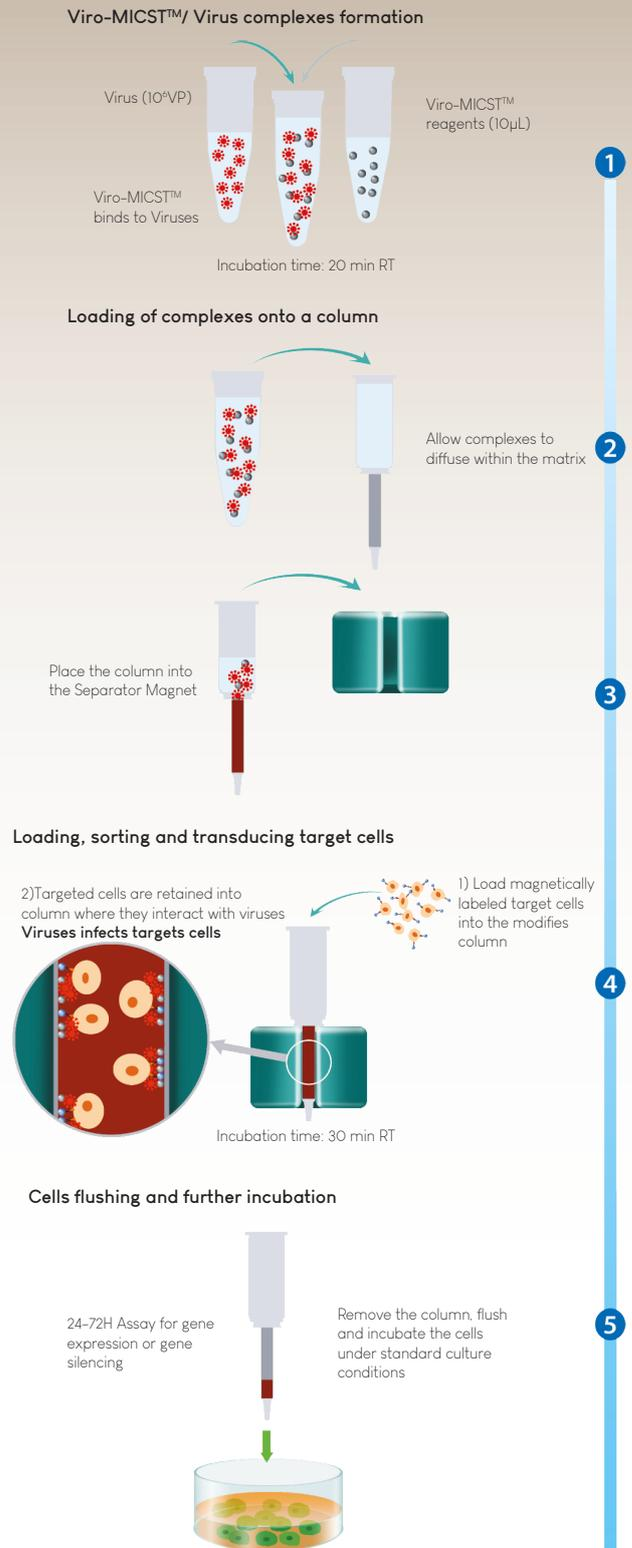

Fig.1 Overview of the Viro-MICST™ procedure
- 2- Viro-MICST™ procedure. This step allows reaching high purity and simultaneously infecting the target cell population. (cf. fig.1)
Figure 1. Intracellular trafficking of polyplexes. Excess of polycations at the surface of the polyplex allows attachment to the cell surface (1) and uptake or internalization by the target cell, generally through endocytosis (2). Once into endosome vesicle (3), higher degree of protonation of the proton-sponge polymer causes influx of ions and the pH responsive linker is cleaved, releasing the first polymer unit (blue). The increase of osmotic pressure that leads the vesicle to swell and rupture is favored by the exposition of the hydrophobic domain of the linker (4). The third unit (red) remains bound to the nucleic acid thus lowering the sensing of the DNA by the cell and assisting its nuclear delivery through direct import into the nucleus (5a) or via microtubules trafficking (5b). Once inside the nucleus (6) the DNA is then expressed.
Figure 1. Adapted transfection reagents for each CRISPR/Cas9 approach. For generation of cellular models, Cas9 and the designed sgRNA (a chimeric RNA containing all essential crRNA and tracrRNA components) can be introduced into the target cells. The type II CRISPR/Cas system only needs a single Cas protein that can be expressed into target cells by: (1) plasmid transfection, (2) direct delivery of the active Cas9 endonuclease, (3) transfection of mRNA encoding for Cas9 or (4) by viral vectors transduction.